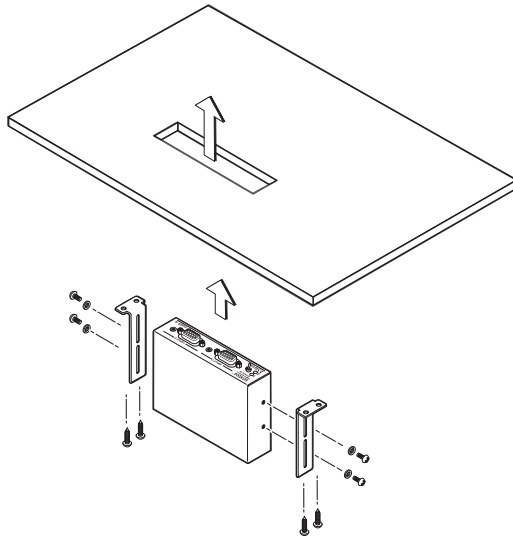

Figure 2-4 — Through-desk mounting
6. Attach the switcher to the desk or table with the provided wood screws, as shown in figure 2-4.